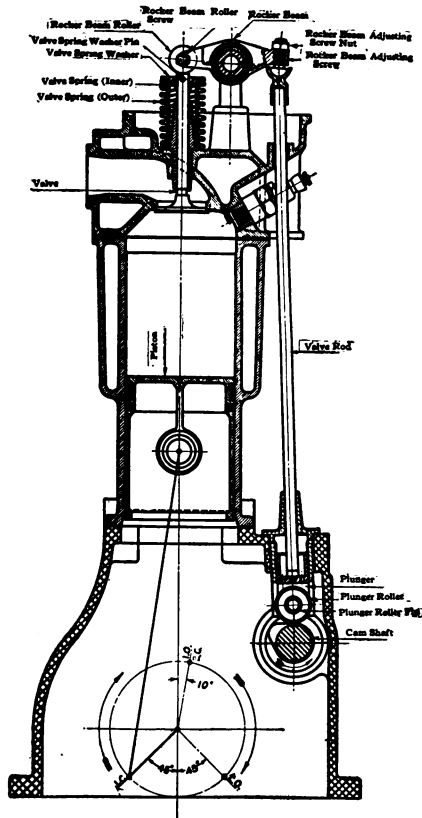

Fig. 17. Section through Dorris 1920 I-Head Cylinder as Used with Valve-in-Head Motors
**I-Head Forms.** The valve-in-the-head, or overhead valve, motor requires an I-head cylinder, because, with this location of the valves, there is no necessity for the valve pockets of the other forms. Consequently the cylinder can be straight and plain, while the head, which is separate, is fastened on instead of being cast integrally. It may have either the L- or T-form, according to the location of the valves and the inlet and exhaust manifolds. Fig. 17 shows an I-head